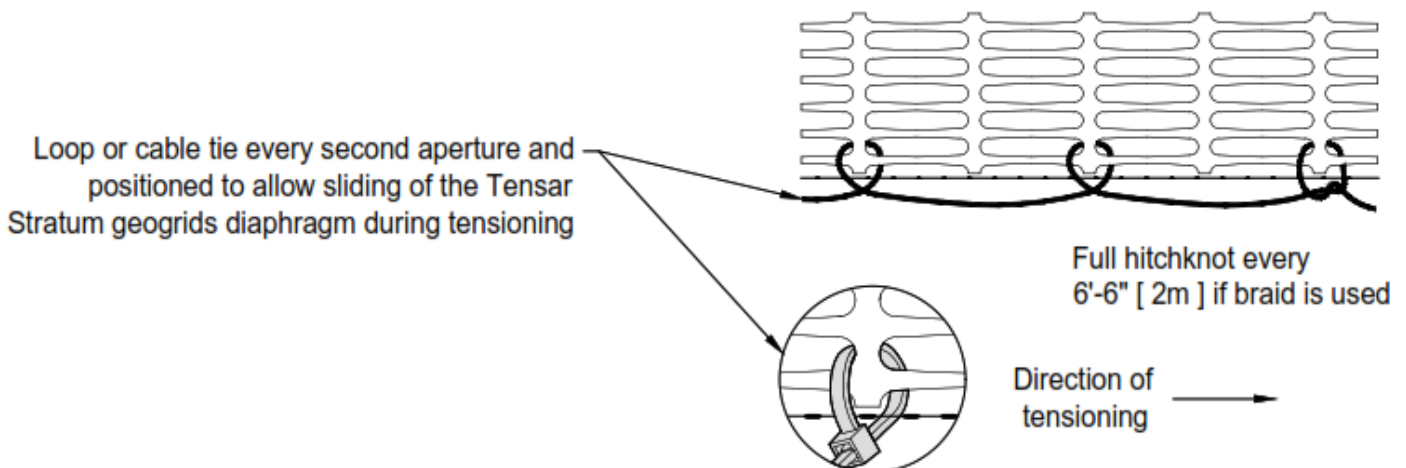

Figure 2
3. Connect one edge of each transverse diaphragm to the base geogrid using HDPE braid (Figure 2) or UV resistance cable ties. Connect every second uniaxial geogrid aperture of the transverse diaphragm to the corresponding transverse rib on the base geogrid. In addition, a full hitch knot is tied at every 6ft 6in (2m) spacing where braid is used. The loops of braid or cable ties should be located to allow the transverse diaphragms to slide across the base geogrid during the subsequent tensioning operation.